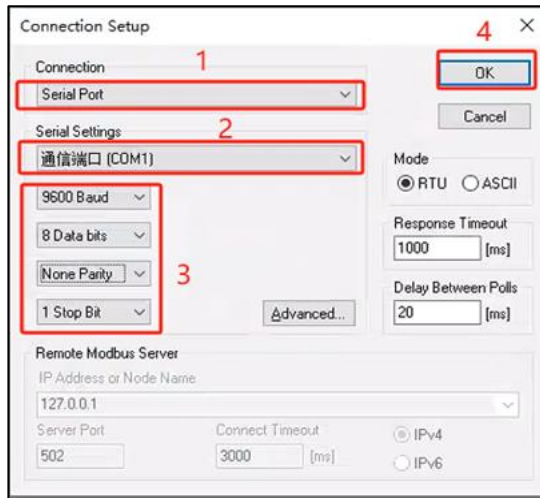

Figure 1
- Connection Setup (As shown in figure 1)